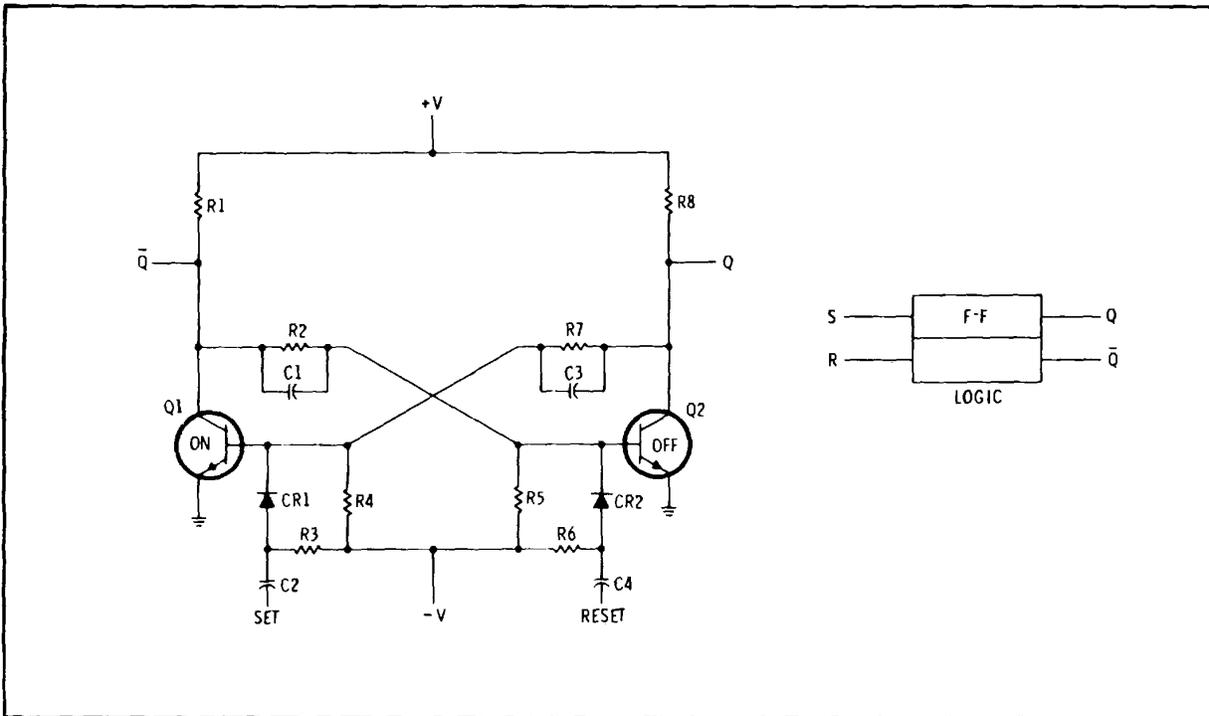

Figure 8-7. RS Flip-Flop
8-38. Reset-Set (RS) Flip-Flop. Figure 8-7 shows an RS flip-flop. The RS flip-flop has two inputs, S for Set and R for Reset (sometimes labeled S for set and C for clear). Assume that initially Q is high (Q2 off) and Q-bar is low (Q1 on). In this state the flip-flop is set and a positive pulse at the set input will not affect the circuit. When a positive pulse is applied to the reset input it is coupled through C4 and CR2 to the base of Q2. Q2 begins to conduct and the negative going collector voltage is coupled through C3 to the base of Q1 to cut